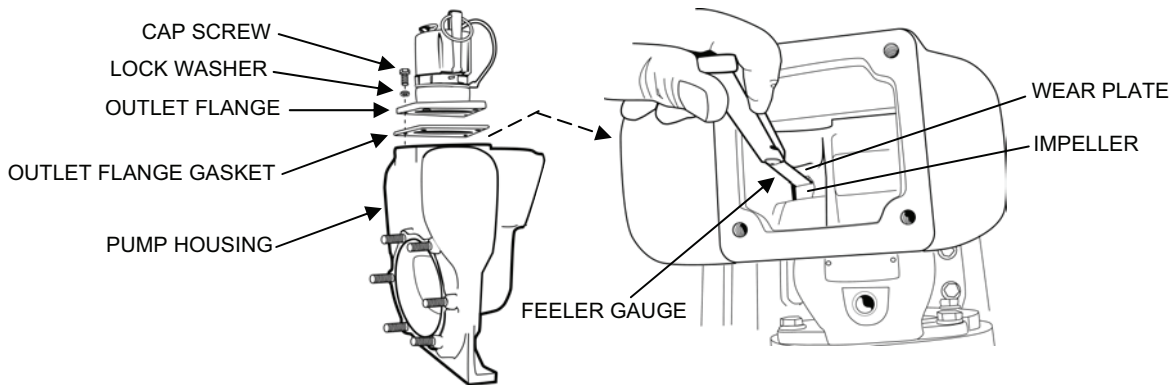

Figure 6. P-7 Pump Impeller Clearance Adjustment.
3. Set the gap between the impeller and the pump wear plate as follows (see Figure 6):